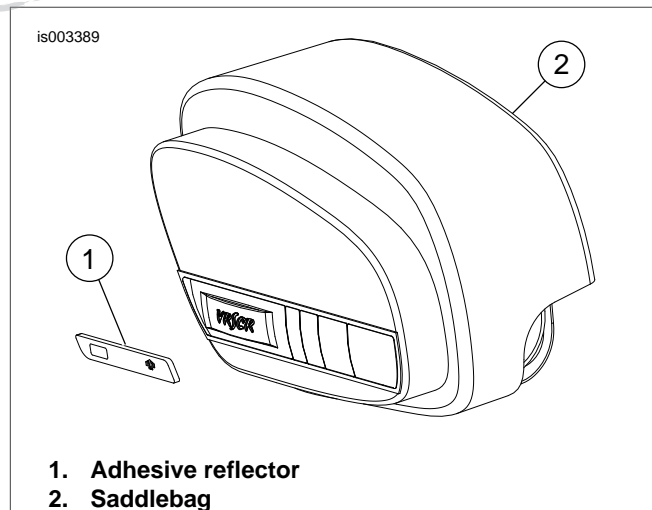

Figure 2. Adhesive Reflectors
1. See Figure 2. Position reflector on flat panel on side of saddlebag.